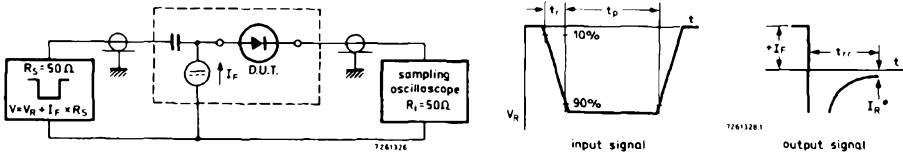

Fig. 3 Reverse recovery time test circuit and waveforms.
**Reverse recovery time (see also Fig. 3)**